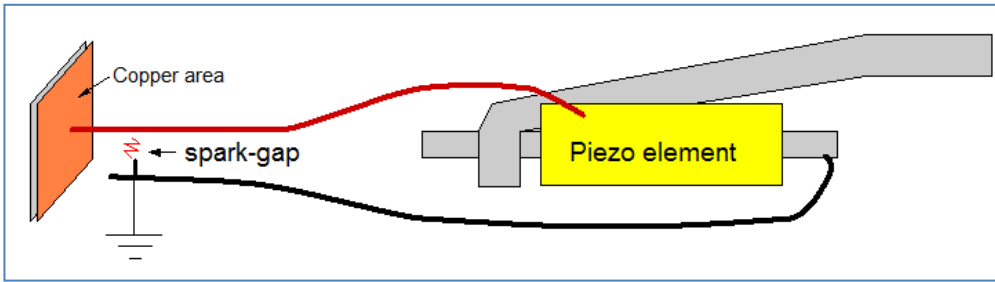

FIGURE 30
b. Electric pulsing field generator. (Figure 30)